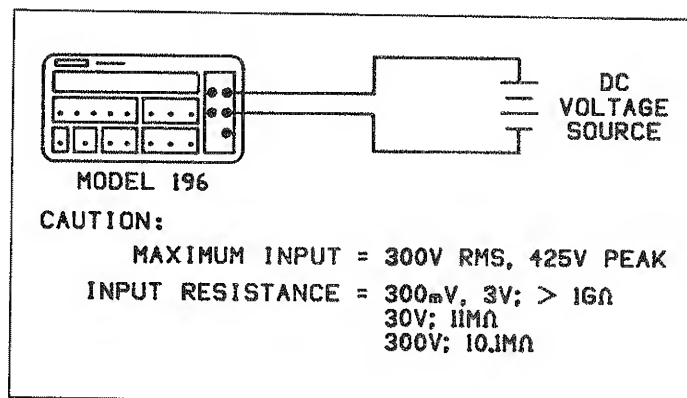

Figure 2-3. DC Voltage Measurements
4. Connect the signal to be measured to the selected input terminals as shown in Figure 2-3.